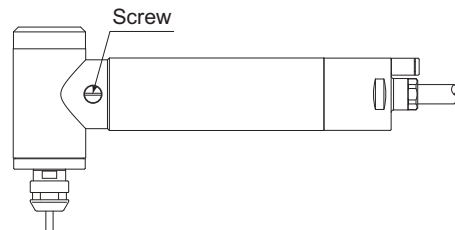

Fig. 20
- ① Turn OFF the power switch of the CONTROLLER and stop the air supply.
- ② Remove the Grease Inlet Screw on the Brushless Motor Spindle with a screw driver (Fig. 20).